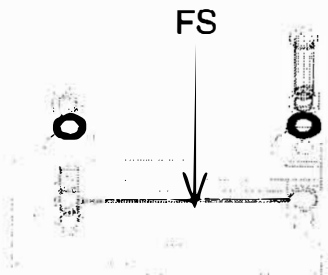

Figure 4 - Fuse Link
3. Remove mounting hardware. See Figure 4.
4. Remove fuse link. Reinstall new fuse link based on the line voltage. See table in Figure 4.